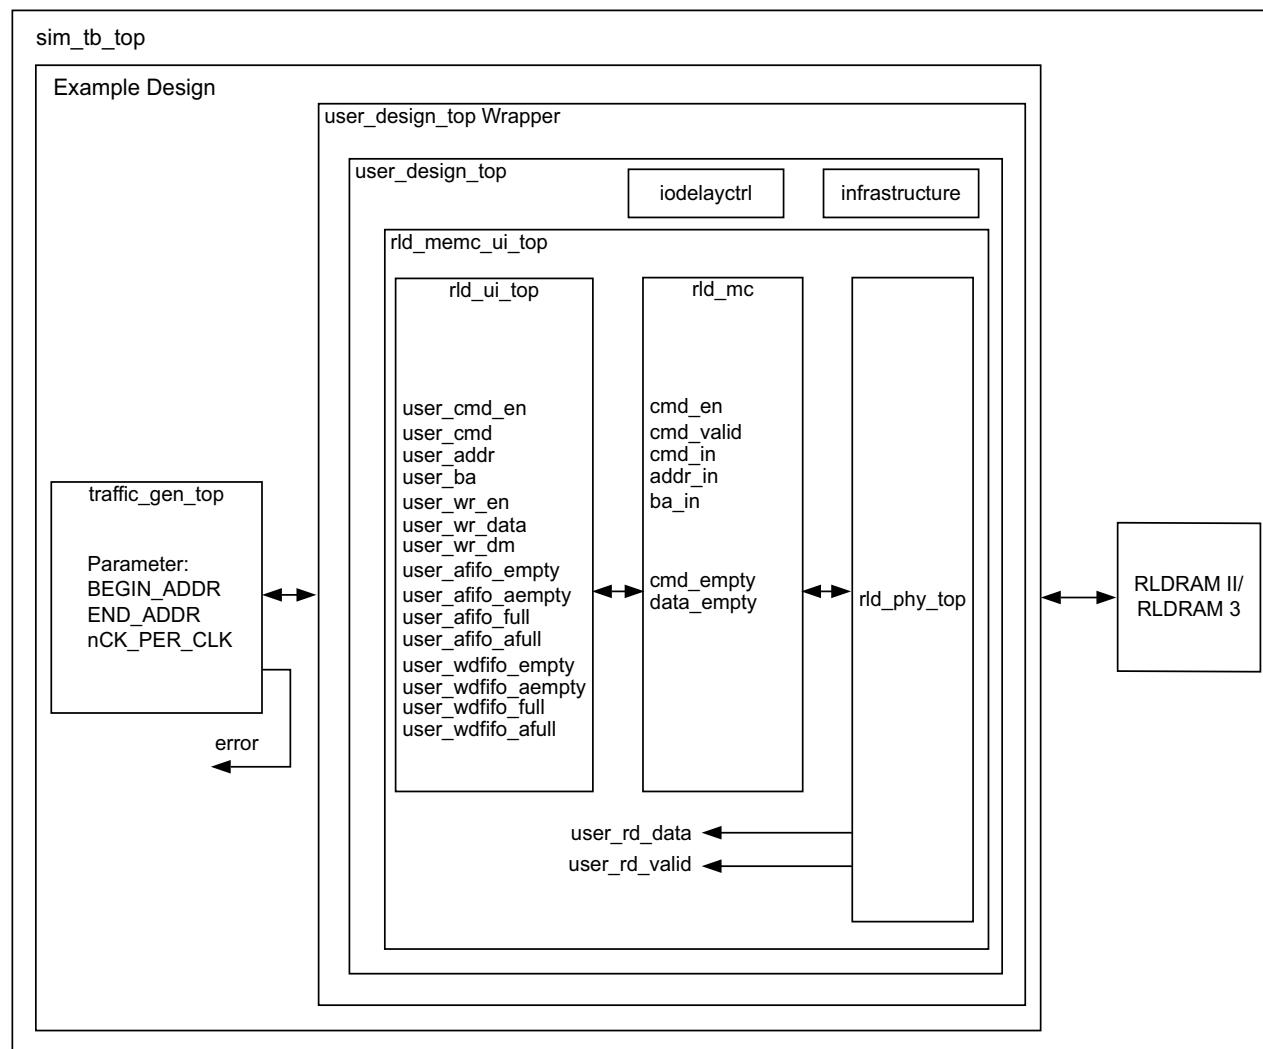

Figure 3-35: Synthesizable Example Design Block Diagram
The MIG tool provides a synthesizable test bench to generate various traffic data patterns to the Memory Controller (MC). This test bench consists of a **rld_memc_ui_top** wrapper, a **traffic_generator** that generates traffic patterns through the user interface to a **rld_ui_top** core, and an infrastructure core that provides clock resources to the **rld_memc_ui_top** core. A block diagram of the example design test bench is shown in Figure 3-35.